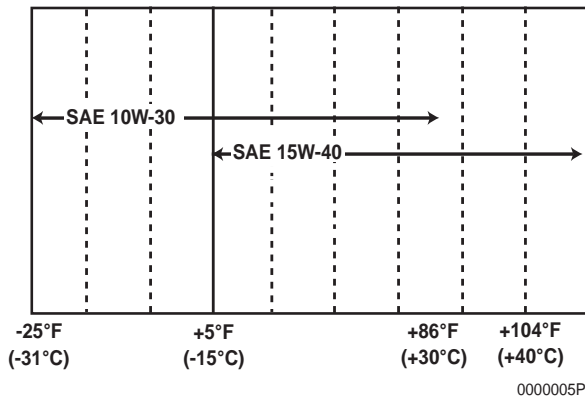

Figure 4-5
3. Select the oil viscosity based on the ambient temperature where the engine is being operated. See the SAE Service Grade Viscosity Chart (**Figure 4-5**).
Select the appropriate engine oil viscosity based on the ambient temperature and use the SAE Service Grade Viscosity Chart in (Figure 4-5).